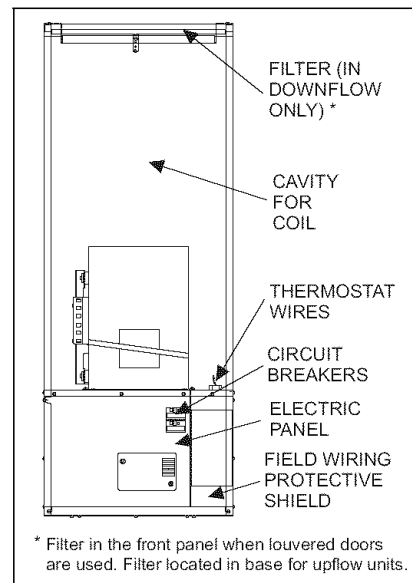

FIGURE 1
To remove blower from furnace, turn off power at household service box, turn furnace circuit breakers OFF. Disconnect wiring to blower, and remove five (5) screws holding blower in furnace and slide blower out from front of the furnace. See Figure 1.
Your electric furnace is equipped with a unique safety feature - circuit breakers. These circuit breakers are located behind the door of the furnace, near the bottom of the furnace. See Fig. 1. If a component should fail inside the furnace, the circuit breakers will prevent damage that can be caused by an electrical short. If the breakers ever trip, they can be reset by first turning off the power to the furnace at the home's circuit breaker panel. See Warning below. Then remove the furnace door and reset the circuit breaker in the furnace. Reinstall the furnace door and turn the power back on at the home's breaker panel. If for some reason these circuit breakers should trip again, a service technician should be contacted as a problem exists inside the furnace. A list of authorized service centers is provided with every furnace and will assist you in obtaining service for your furnace.
FILTER LOCATION: The furnace's front panel must be removed to gain access to the filter of the downflow furnace. (See Figure 1.) However, the filter for the upflow furnace* is located behind the return air grill, adjacent to the furnace closet or any other location in the return air.